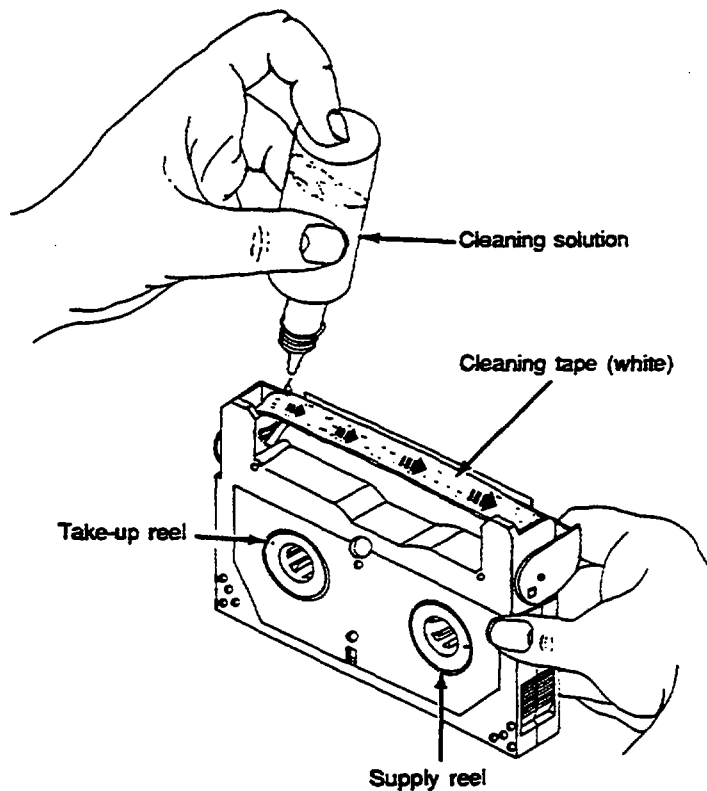

Figure 3-5 Applying the Cleaning Solution
5. Hold the door open and apply the cleaning solution to the tape starting at the point where the tape enters the cartridge on the take-up reel side (see Figure 3-5). Squeeze the solution bottle gently to apply the solution in a steady stream to the surface of the tape. The tape will absorb the solution immediately; do not over-saturate the tape.